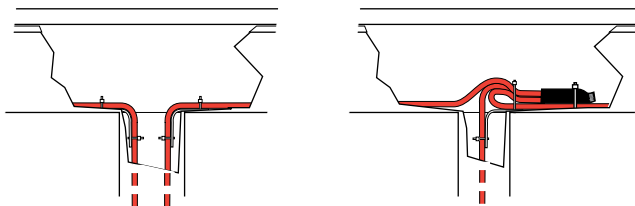
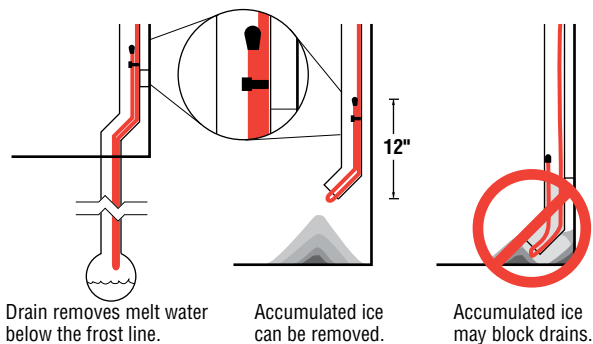

Figure 14: Heating cable at top of downspout
Figure 15: Heating cable at bottom of downspout
- External downspouts and scuppers must be treated carefully. A path must be provided for the valley/perimeter heating cable to the point of discharge (see Figure 15 on page 27).
Ice may form in downspouts and prevent melt water from escaping from the roof. To maintain a continuous path for melt water to run off, run the heating cable inside the downspout to the end as shown in Figure 14 and Figure 15 below. Follow the appropriate attachment recommendations in “Attachment Methods,” page 29. Additional heating cable may be needed for the roof surface, gutters, and valleys.